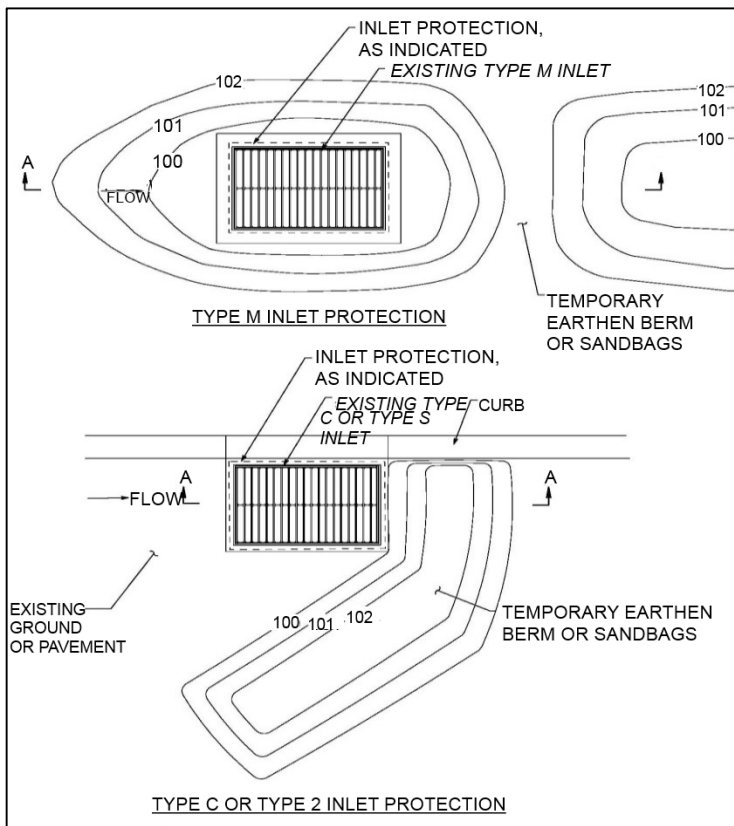

Figure 23: Storm Inlet Protection
- Where practical, provide down gradient berm as indicated in Figure 23. Do not use in a sag/sump condition.